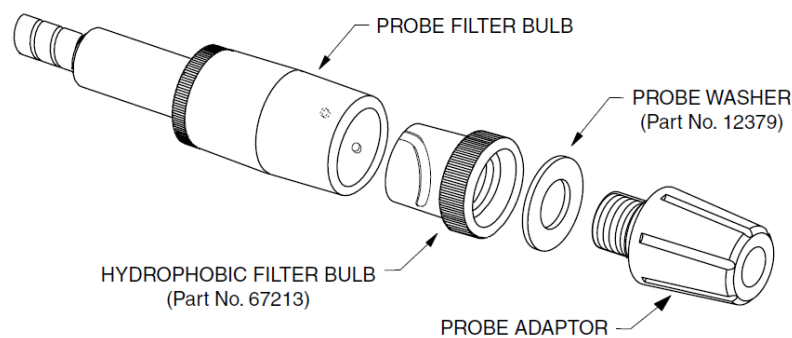

Figure 44: Hydrophobic Filter Bulb Removal
2. Unscrew the probe adaptor, as illustrated in Figure 44: Hydrophobic Filter Bulb Removal.